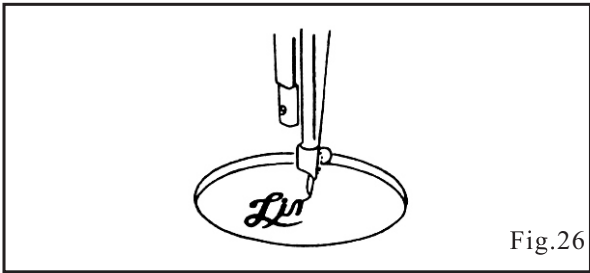

Fig.26
4). To make sure to stretchtightly the material between the internal and external embroidering frames, otherwise, maybe cause skipping and stitches breaking or material creased.(Fig. 26)